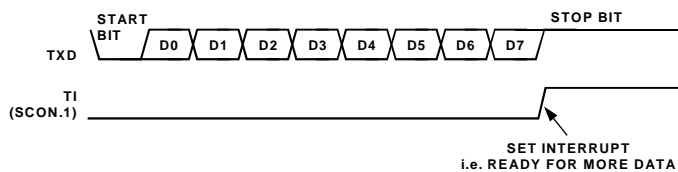

Figure 44. UART Serial Port Transmission, Mode 0.
Transmission is initiated by writing to SBUF. The 'write to SBUF' signal also loads a 1 (stop bit) into the ninth bit position of the transmit shift register. The data is output bit by bit until the stop bit appears on TXD and the transmit interrupt flag (TI) is automatically set as shown in Figure 44.